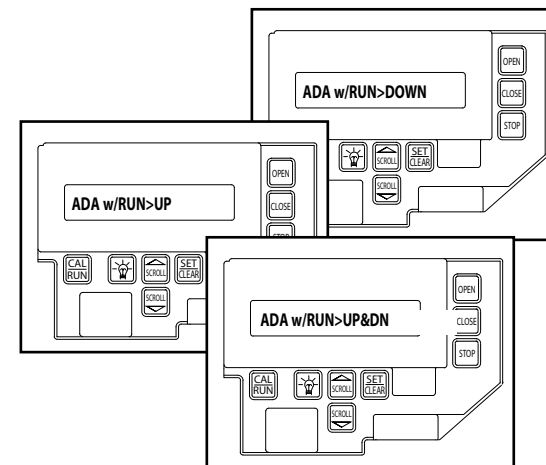

Fig. 5B Select Mode
4. Press the SET/CLEAR key to toggle between the following modes (Fig. 5B):